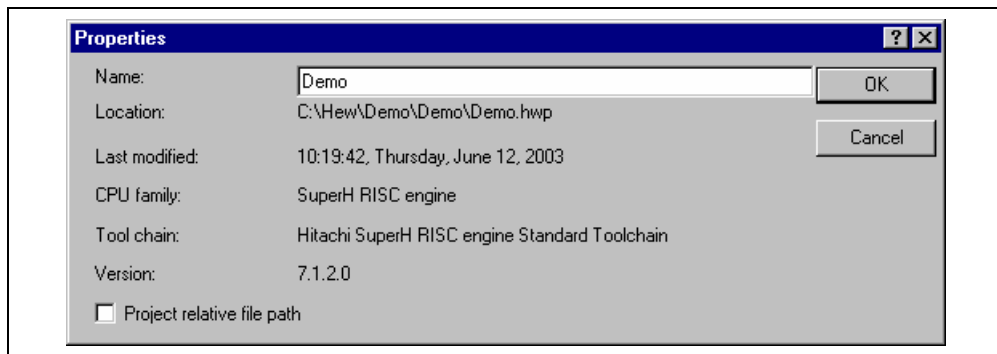

Figure 2.26: Properties Dialog
3. Click the “Project relative file path” checkbox to switch on or off the relative file path feature. (figure 2.26)